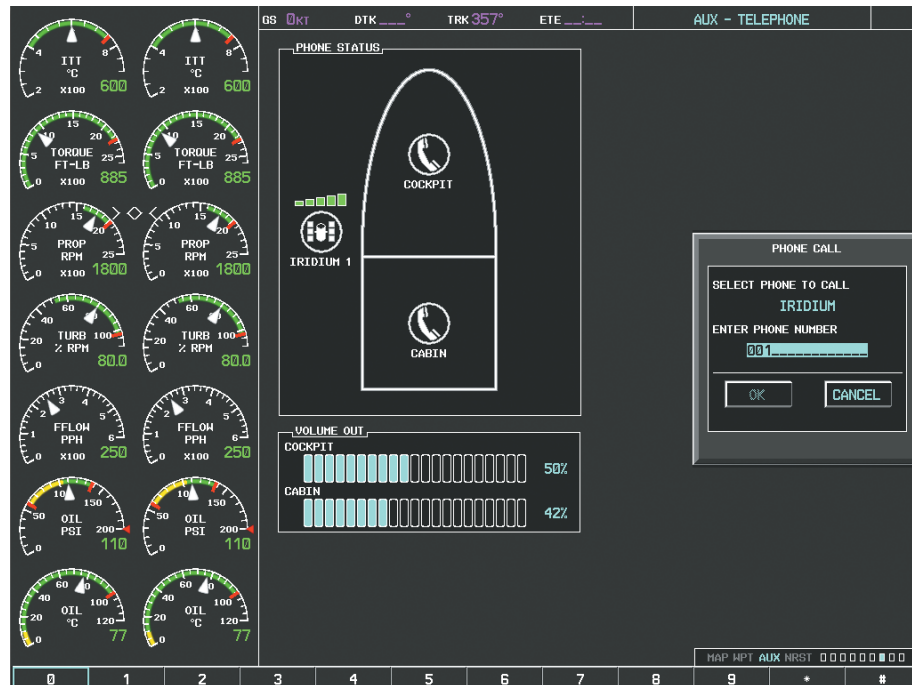

Figure 8-86 Enter Phone Number
- 4) Press the **ENT** Key. The cursor has now moved to the phone number entry field as shown in Figure 8-86.